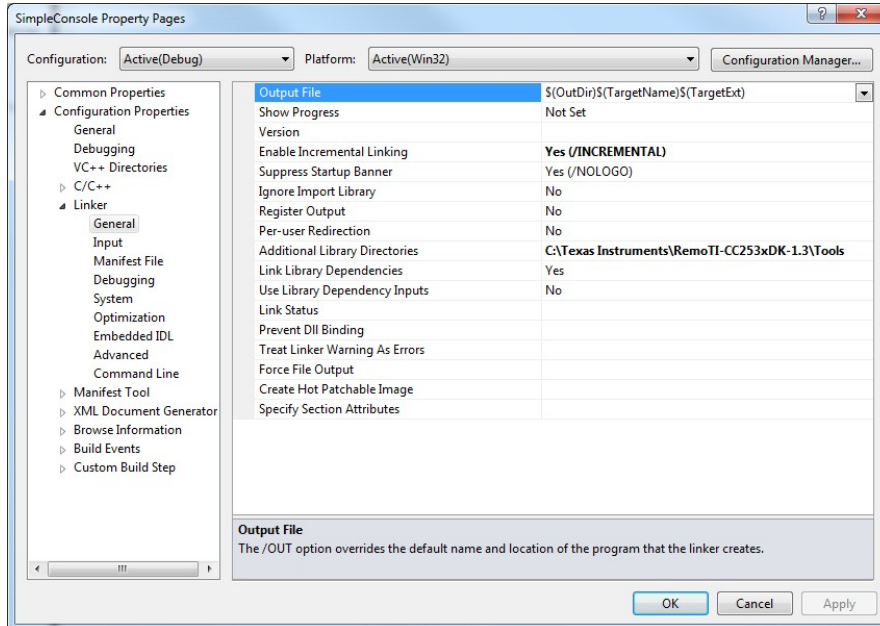

Figure 7. VC++ Express Additional Linker Directories Configuration
- b. Go to Linker and the General category and add “C:\Texas Instruments\RemoTI-CC253xDK-1.3.1\Tools” to Additional Library Directories. See Figure 7.